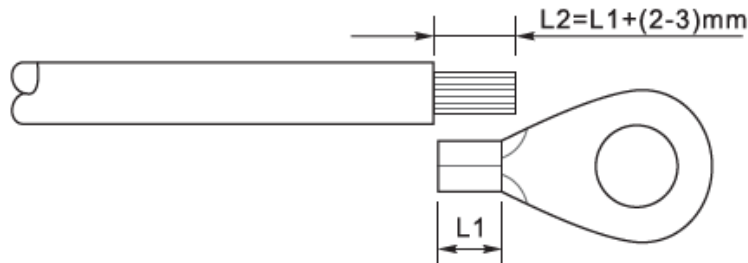

Figure 9 – Preparing the ground cable (1)
1) Remove a suitable length of the external insulation layer using a wire stripper, as shown in Figure 9.